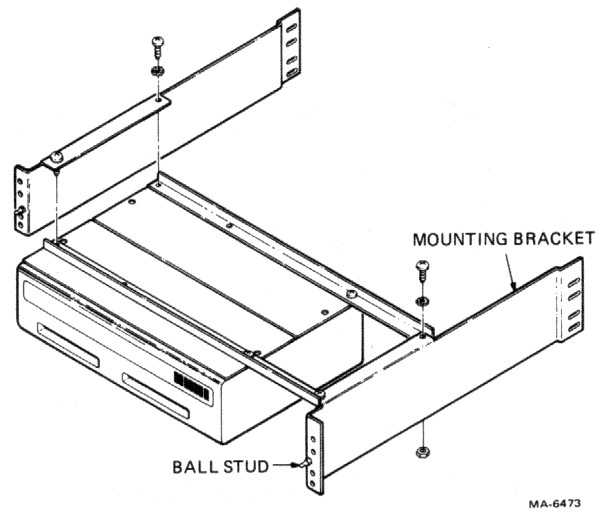

Figure 4-3 Installing Mounting Brackets
3. Fasten the mounting bracket to the left side of the TU58-DA with two screws and two lock washers so the ball stud faces forward (bend in bracket toward center of TU58-DA). Install the other mounting bracket in the same manner using two screws, two lock washers, and two lock nuts to secure it to the support brackets (Figure 4-3).